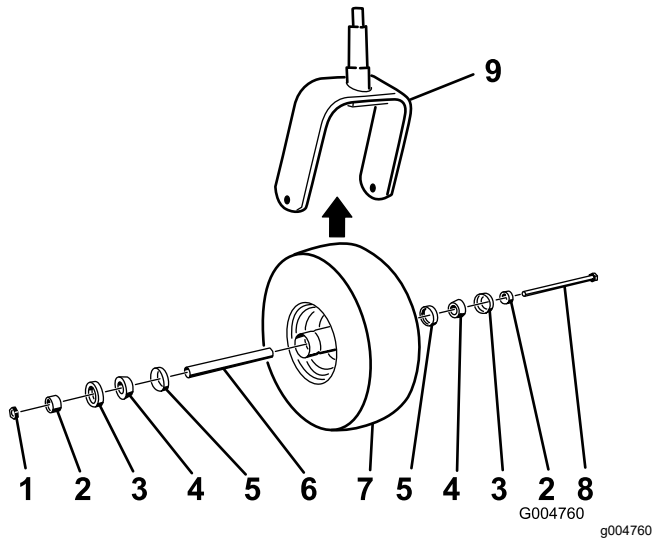

Figure 80
2. Remove the locknut from the bolt (Figure 80).
5. Assemble the caster wheel by pushing the cone bearings and seals, packed with grease, into the wheel hub, positioned as shown in Figure 80.